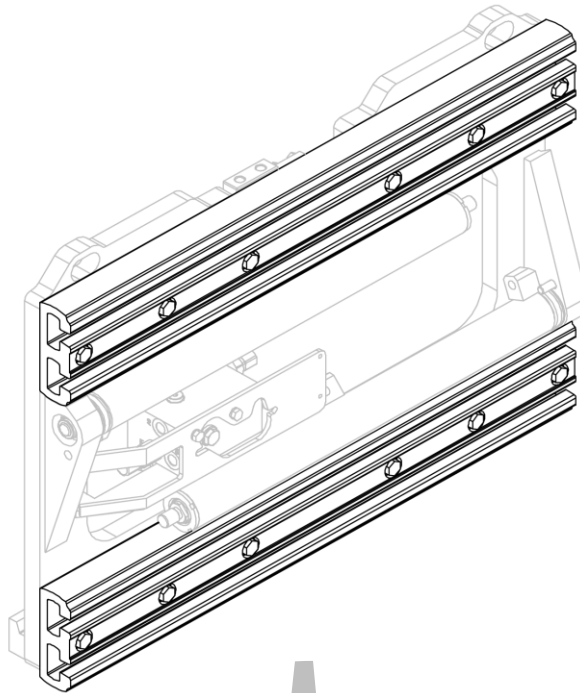
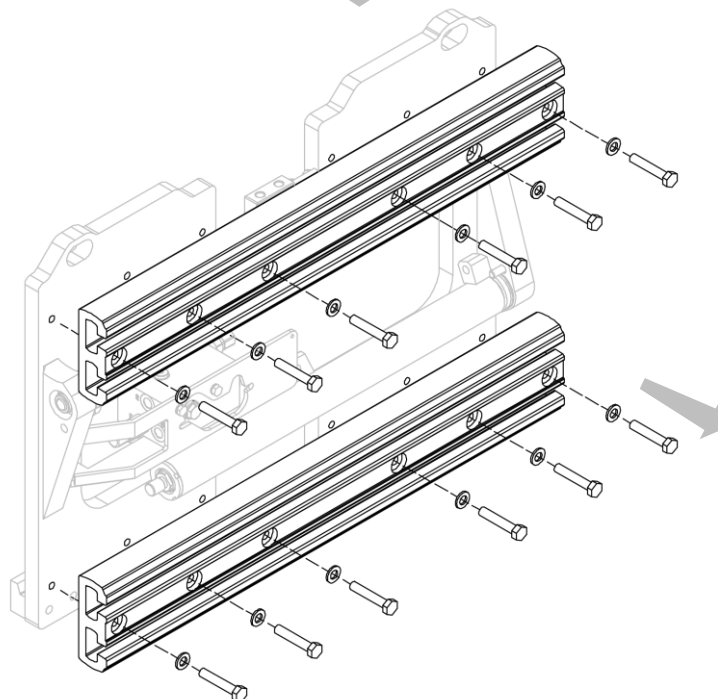

Figure 28
Figure 29
2. Remove the aluminium profiles, one at a time, after unscrewing the bolts (see *Figure 28* and *Figure 29*).